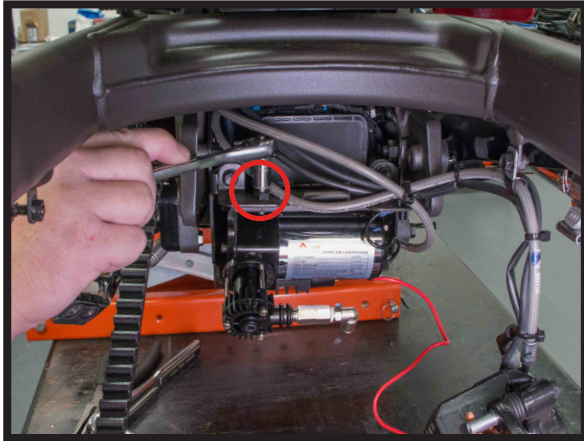

FIGURE 7
4. NEXT, SCREW THE OTHER BOLT IN THE OPPOSITE DIRECTION THROUGH THE LARGER HOLE IN THE PUMP BRACKET. USE THE INCLUDED FENDER WASHER AND LOCK NUT TO SECURE THE BRACKET TO THE FRAME. (FIGURES 7, 8)